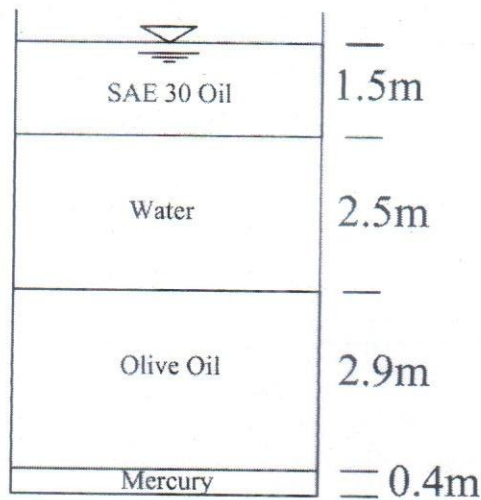

Fig.: 8
- (c) What is cavitation? Write its causes and disadvantages. (03)
7. (a) The system in Fig. 8 is at 20°C . If atmospheric pressure is 101.03 kPa and the absolute pressure at the bottom of the tank is 231.3 kPa, what is the specific gravity of olive oil? Consider, specific gravity of SAE 30 oil is 0.89. (09)